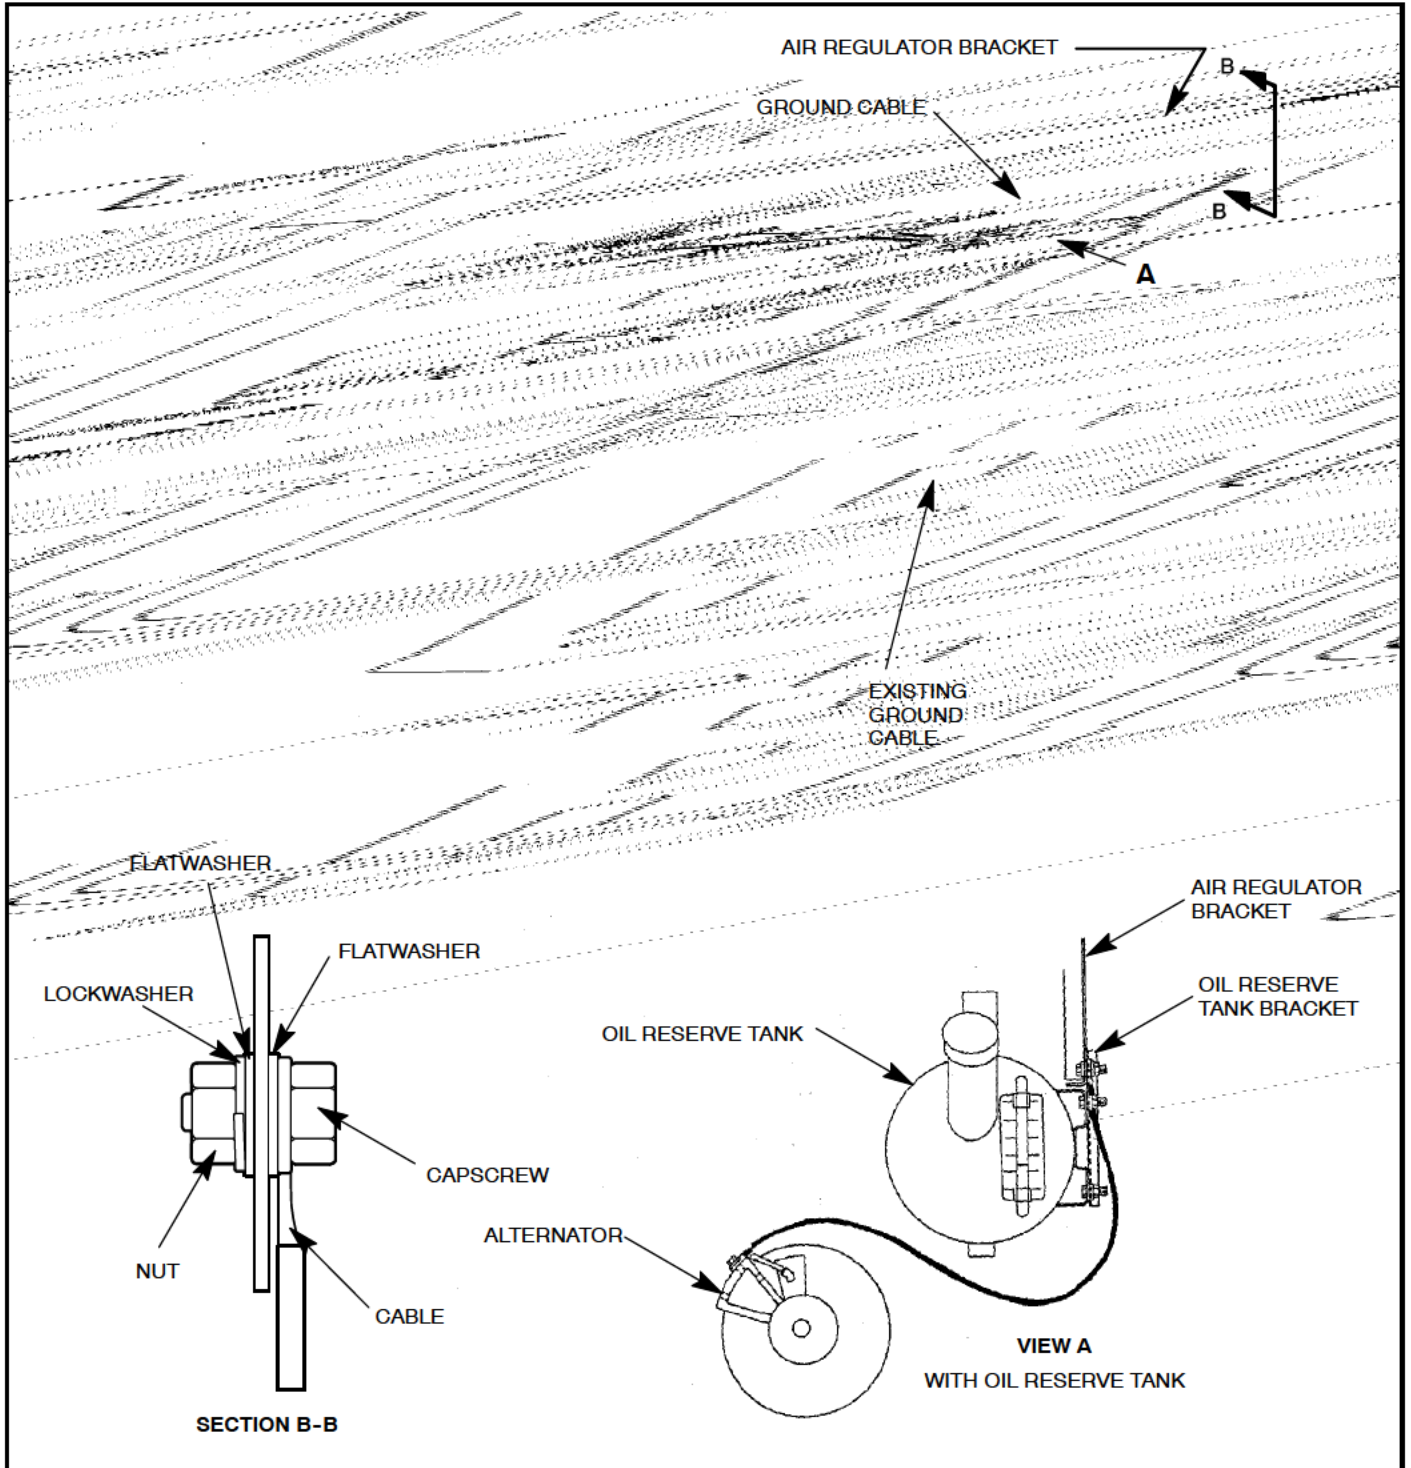

Figure 1 Alternator Ground
- a. Route the cable over the alternator and under the reserve tank to the air regulator bracket per view A of Figure 1.
- d. Use the capscrew, lockwasher and flatwasher provided to secure the cable (Figure 1, Section B-B). Due to the confined nature of this area, it may be necessary to install the capscrew from the front side of the bracket, and to place the nut on the back side.
5. Inspect the existing ground cable connection to the frame stud and engine block (Figure 1). If the connection is loose or corroded, remove the connection, sand all contact surfaces to a clean shiny appearance, and reassemble the connection.